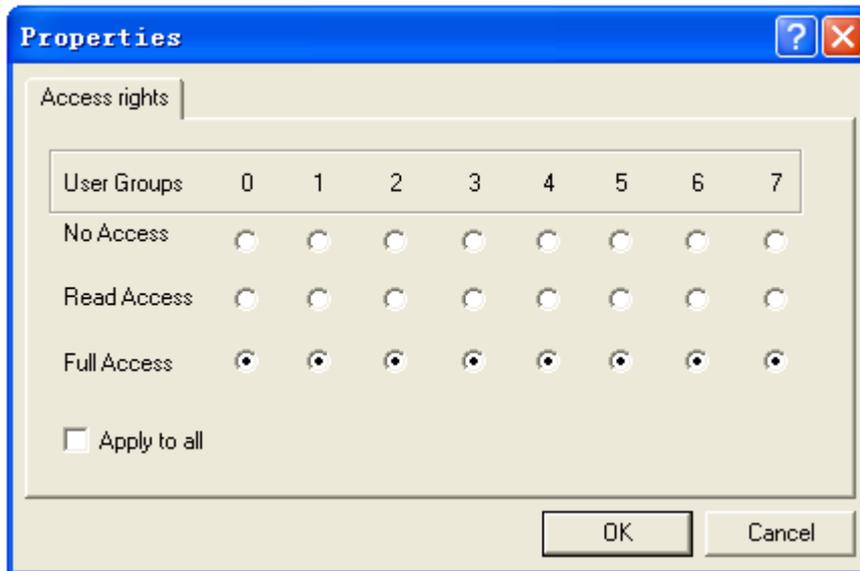

Figure 2-3-6 Properties Dialog
- **Properties:** Set user’s access rights to the current POU, as shown in figure 2-3-6.